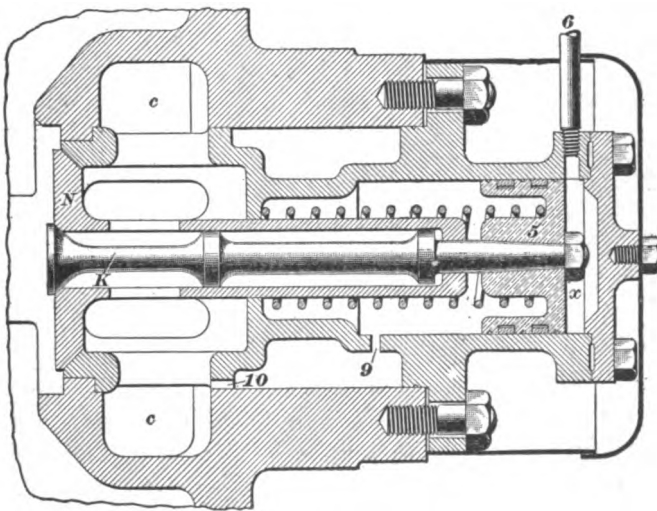

FIG. 37.
**79. Emergency Exhaust Valve.**—The emergency exhaust valve, Fig. 37, really consists of two valves *N* and *K* operated by the piston *5*. The chamber *x* back of the piston is connected, by means of a pipe *6*, to an operating valve conveniently situated in the engine cab; the operating valve is very similar to those already described, only in place of being piped for steam to the boiler it is piped for air to the engineer's brake valve. Sometimes, however, it is piped to both places, in which event either air or steam can be used to operate the emergency exhaust valve.